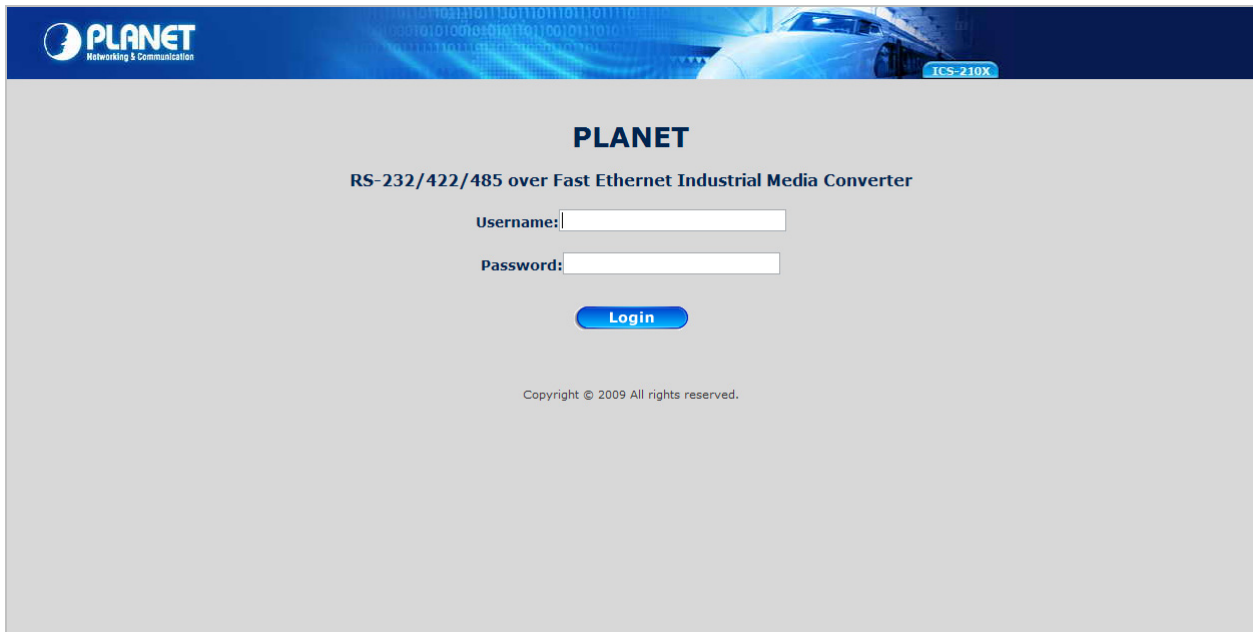

Figure 3-2 Login screen
2. When the following login screen appears, please enter the default username and password (default user name and password is "**admin**"). Press Login to enter the main screen of ICS-210x. The login screen in Figure 3-2 appears.